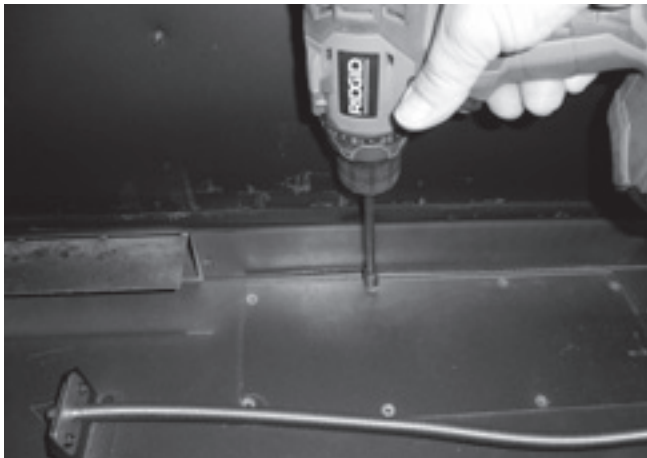

Figure 16
14. Locate the two internal Blower Access Cover plates. Using a $\frac{5}{16}$ -inch Hex drive socket, remove these two gasketed access plates, and set aside. **See Figures 16, 17, & 18.**